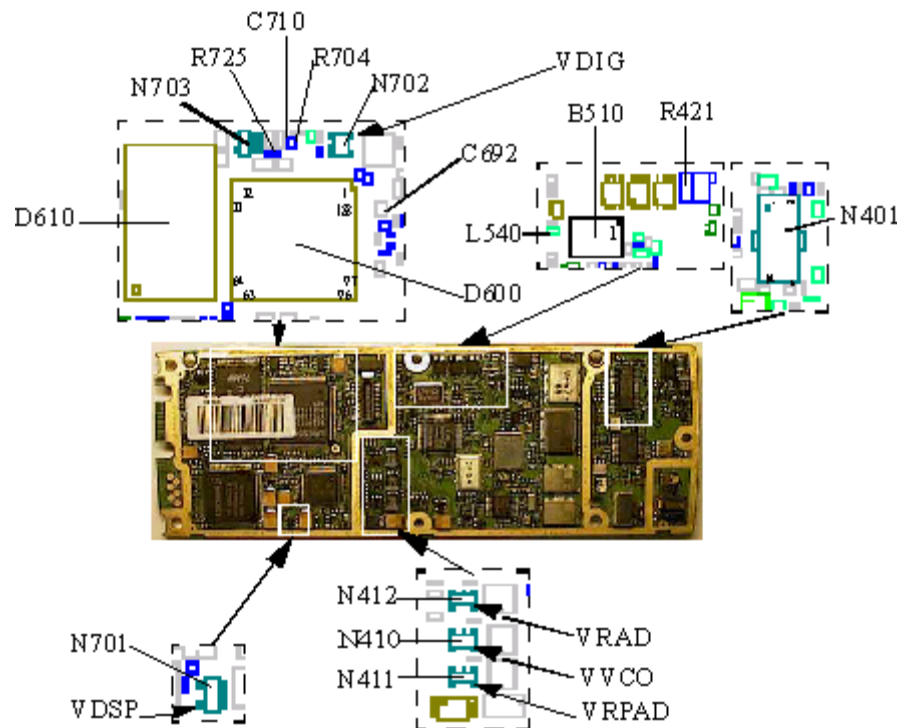
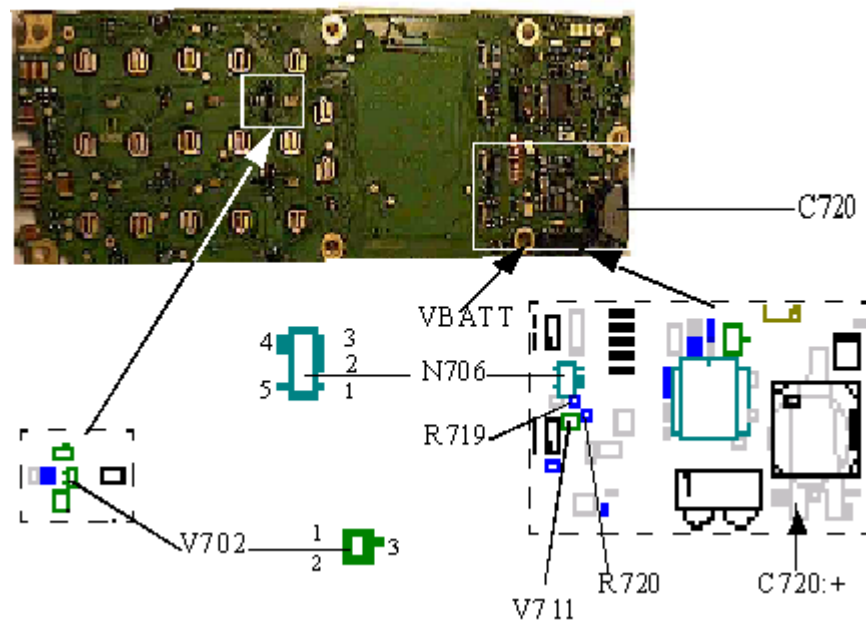
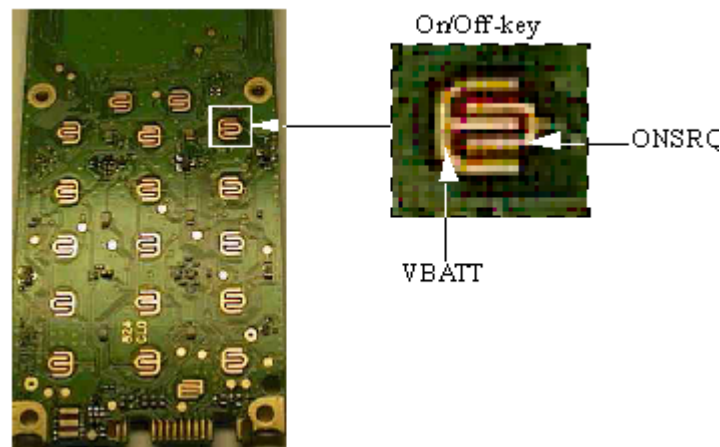

Fig. 3.1
Fig. 3.2
Fig. 3.3
* If it's more than 1.5A or as high as the current limit of the power supply, then N401 (class D1, fig. 3.1) is broken and the phone can't be repaired at this level. Measure the resistance from N401 pin 14 to ground. It should be >10 kohms but if it's approximately 200 ohms it means that N401 is broken.
Open the phone and make a visual check. The component side of the circuit board is shown in fig. 3.1. Check for eventual liquid damages and burnt or damaged pads at the system connector. Check R421 (~0.1 ohms, class B, fig. 3.1) and faulty solderings at D600 and D610 (fig. 3.1).
Also check the manufacturing week of the circuit board. At the boards manufactured in 1998 week 20-22, L540 (class A, fig. 3.1) is to be replaced. At the boards manufactured other dates, check the solderings at L540. As soon as the fault is fixed, send the phone through the normal flow. If the phone starts and the above is ok, it's probably ok or the fault is intermittent.
- * If the phone starts after programming it, then the problem is probably fixed. To eliminate the risk for intermittent faults make sure the circuit board isn't liquid damaged and that the solderings at D600 and D610 (fig. 3.1) are ok. Also check the manufacturing date of the circuit board. L540 (class A, fig. 3.1) is to be replaced at all the circuit boards manufactured in 1998 weeks 20-22. At the boards made in any other week just check the solderings of L540.
Measure the resistance of R421 (0.1 ohms, class B, fig. 3.1).
Check VDIG and VDSP voltages (3.2V, fig. 3.1).
- * If the resistance is correct, replace the corresponding circuit, VDIG - N702 (class A), VDSP - N701 (class A, both in fig. 3.1).
Check the powerreset (PWRRST) voltage at C710 (>3V, fig. 3.1).
- If it's lower, check R704 (~0 ohms, class A, fig. 3.1) and R725 (~100 kohms, class A, fig. 3.1).
- * If they are ok, first replace C710 and if it doesn't help, replace N703 (both class A and in fig. 3.1).
Measure the voltages at VRAD, VVCO and VRPAD (~3.8V, fig. 3.1).
- * If it's correct, replace the corresponding transistor (see fig. 3.1, all of them class A).
Check the amplitude of the 13MHz system clock at B510 pin 1 (~1V t-t, class C, fig. 3.1). Measure it by using an oscilloscope, spectrum analyzer, frequency counter or a diode probe.
Make sure there aren't any faulty solderings at D600 or D610 (fig. 3.1).
Measure the VDIG and VDSP voltages (~3.2V, fig. 3.1).
- * If the resistance is correct, replace the corresponding regulator (VDIG - N702, VDSP - N701, both of class A, fig. 3.1).
Check the power reset (PWRRST) voltage at C710 (fig. 3.1, >3V).
- If it's less, measure the resistance of R704 (~0 ohms, class A, fig. 3.1) and R725 (~100 kohms, class A, fig. 3.1).
- * If they're correct, replace C710 at first and if that doesn't help, N703 (both class A, fig. 3.1) .
Measure the VRAD, VVCO and VRPAD voltages (~3.8V, fig. 3.1).
- * If the resistance is correct, replace the corresponding transistor (see fig. 3.1, all of class A).
Check the VDIG and VDSP voltages (~3.2V, fig. 3.1).
- Measure the VRAD, VVCO and VRPAD voltages (~3.8V, fig. 3.1).
- * If the resistance is correct, replace the corresponding regulator (see fig. 3.1, all of class A).
Measure the voltage at C692 (>3V, fig. 3.1).
- If it's correct, check the soldering at D600 pin 119 (fig. 3.1).
- * If the resistance is correct, measure the input voltage at N706 pin 2 (VBATT, fig. 3.2) and the output voltage at pin 3 (~3.5V). Make sure that there's ground at N706 pin 1.
- * If VBATT and ground are correct but not the output voltage, replace N706 (class A, fig. 3.2).
- * If they're all correct, measure the voltage at the positive side of the backup capacitor, C720 (~3.2V, class A, fig. 3.2).
- * If it's incorrect, measure the resistances of R720 (180 kohms, class A, fig. 3.2) and R719 (47 kohms, class A, fig. 3.2).